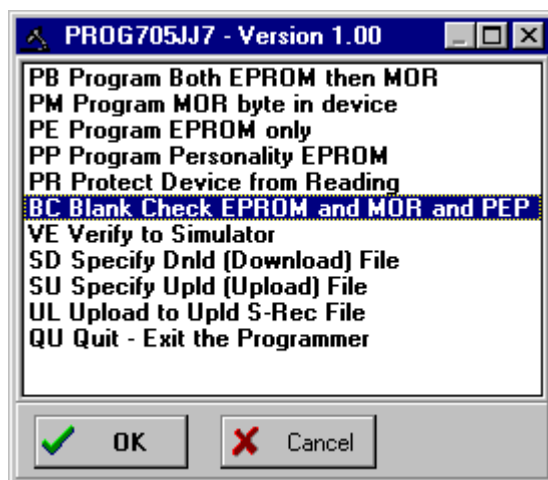

Figure 6-21. Programmer Pick Window
- **Pick Window:** The Pick Window (Figure 6-21) displays all programming actions and functions for you to select.